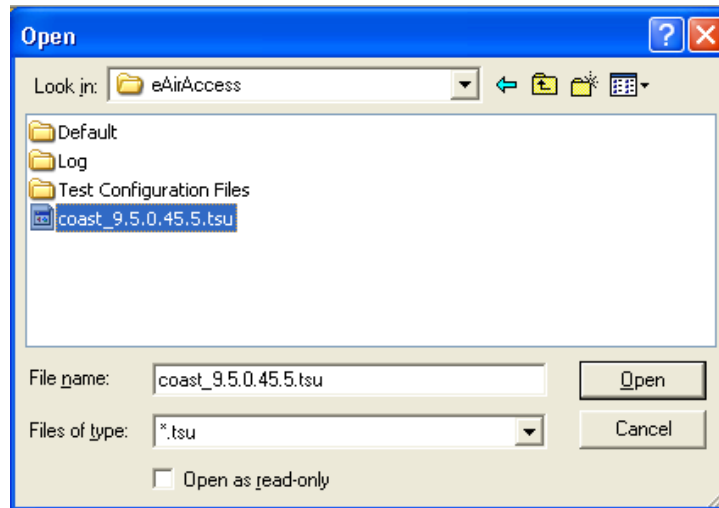

Figure 2-28: Opening the .tsu File
5. Select the *.tsu* file and click the **Open** button, as shown in Figure 2-28.
NOTE: The version number reflected in the filename shown in Figure 2-28 may not reflect the current software version number.